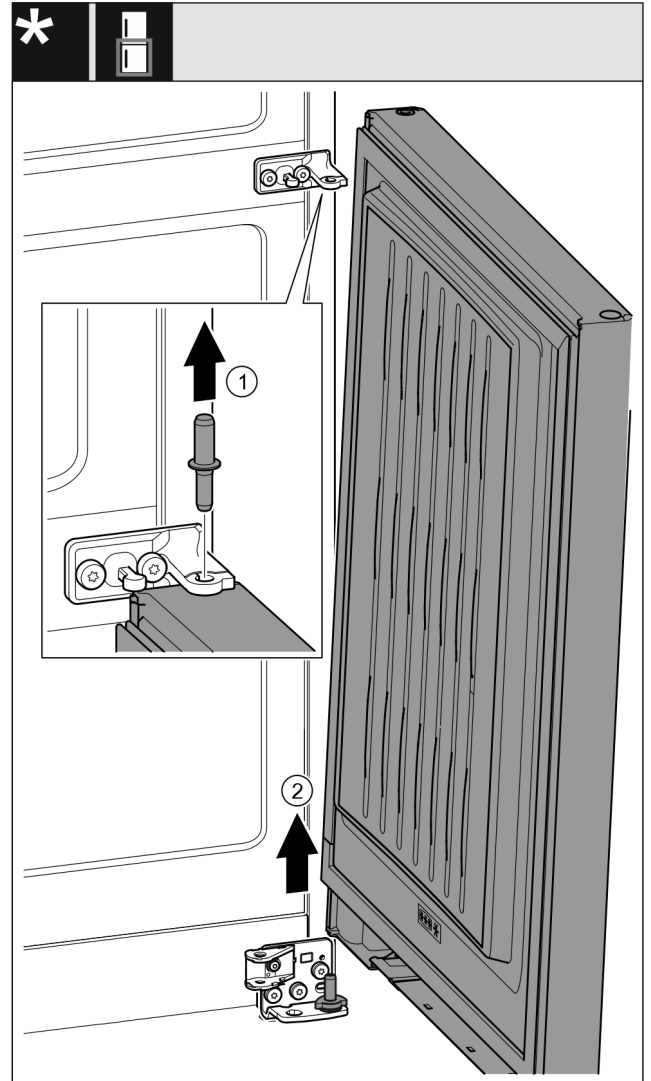

Fig. 23*
- ▶ Pull out the bolts upwards. Fig. 23 (1)*
- ▶ Swing the door out, pull it upwards and place it to one side. Fig. 23 (2)*